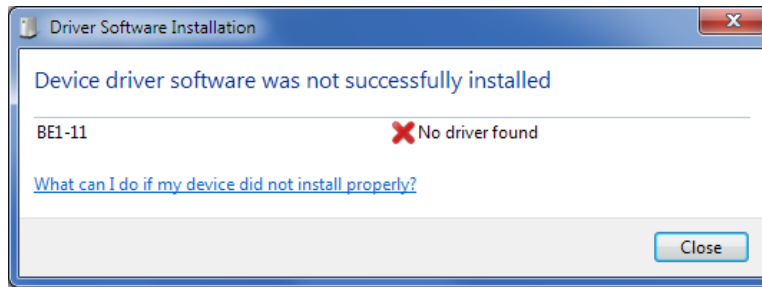

Figure 45-1. Driver Software Installation
- Step 1. If the message in Figure 45-1 is shown, close all programs and restart the computer.